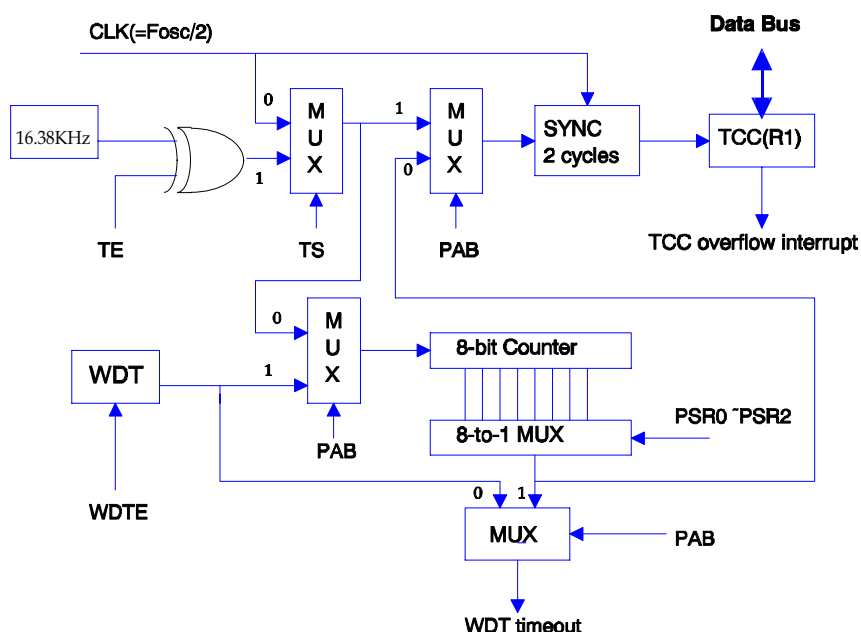

Fig.6 Block diagram of TCC WDT
- Fig. 6 depicts the circuit diagram of TCC/WDT.